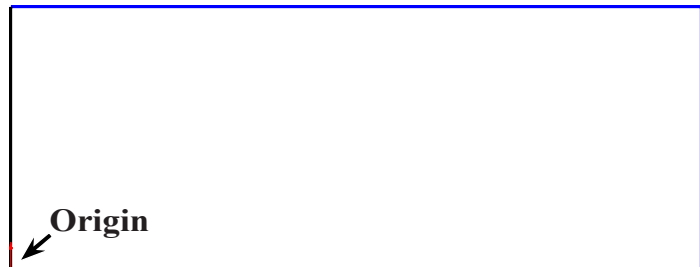

Fig. 2
Step 4. Sketch rectangle at **Origin** , **Fig. 2**.